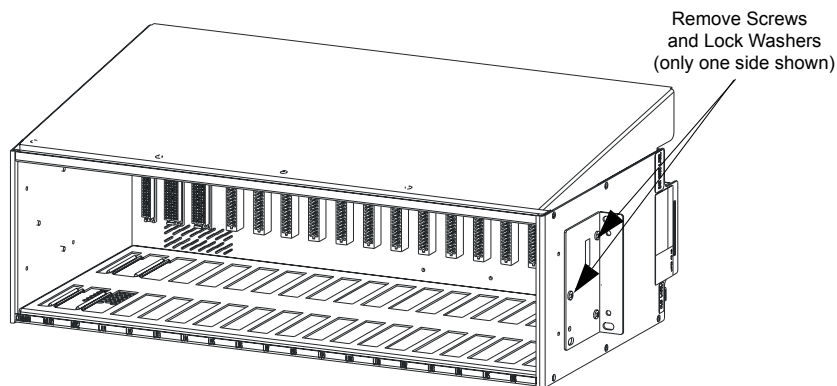

Figure 17. Remove Screws and Lock Washers
1. Remove the two screws and lock washers from **both** sides of the PCS-719 shelf (Figure 17 - only one side shown).